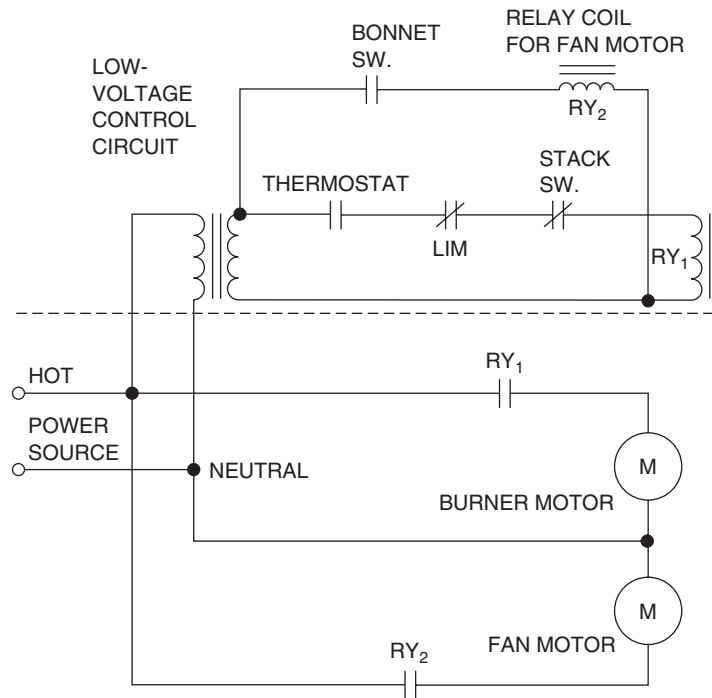

FIGURE 24-6 Exercise.
7. In Figure 24-6, will the burner motor ever operate without the fan motor operating?